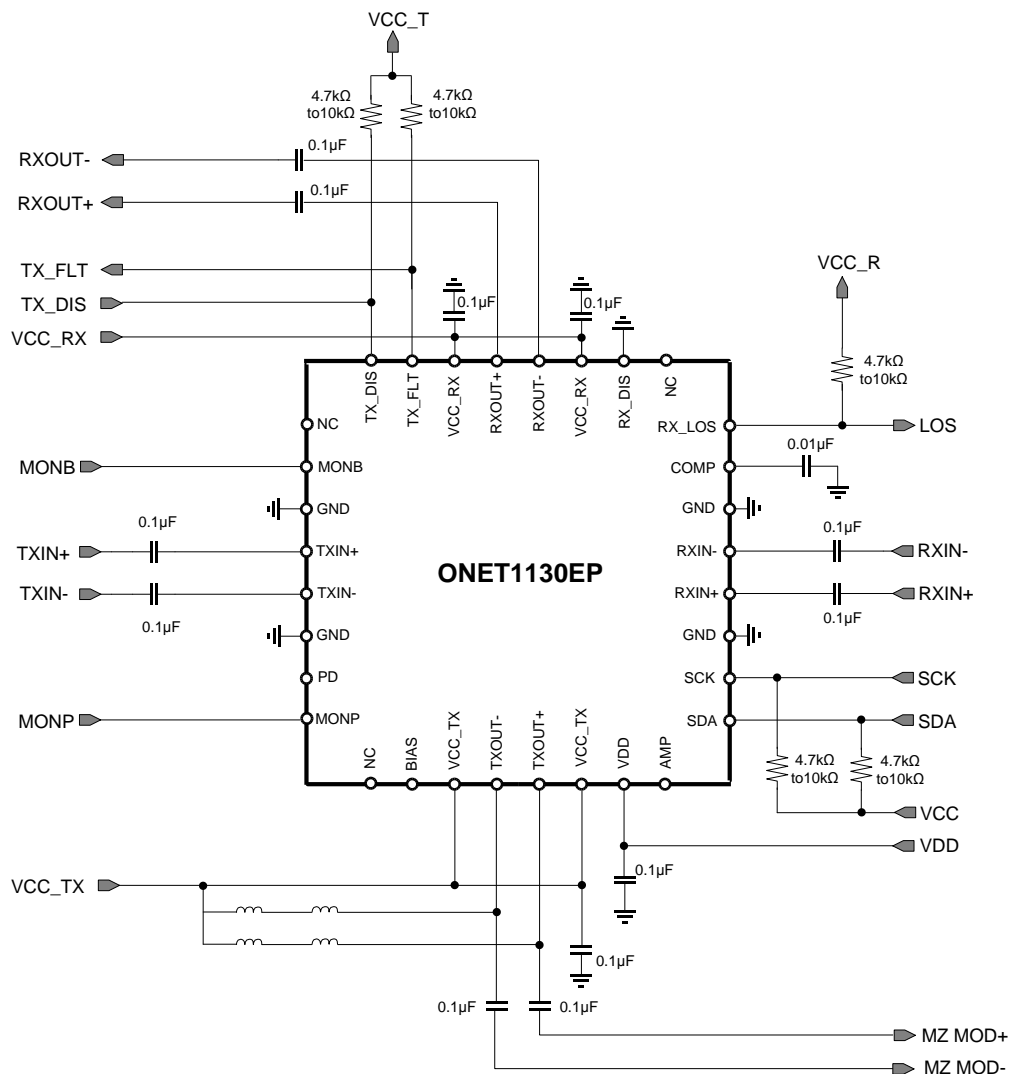
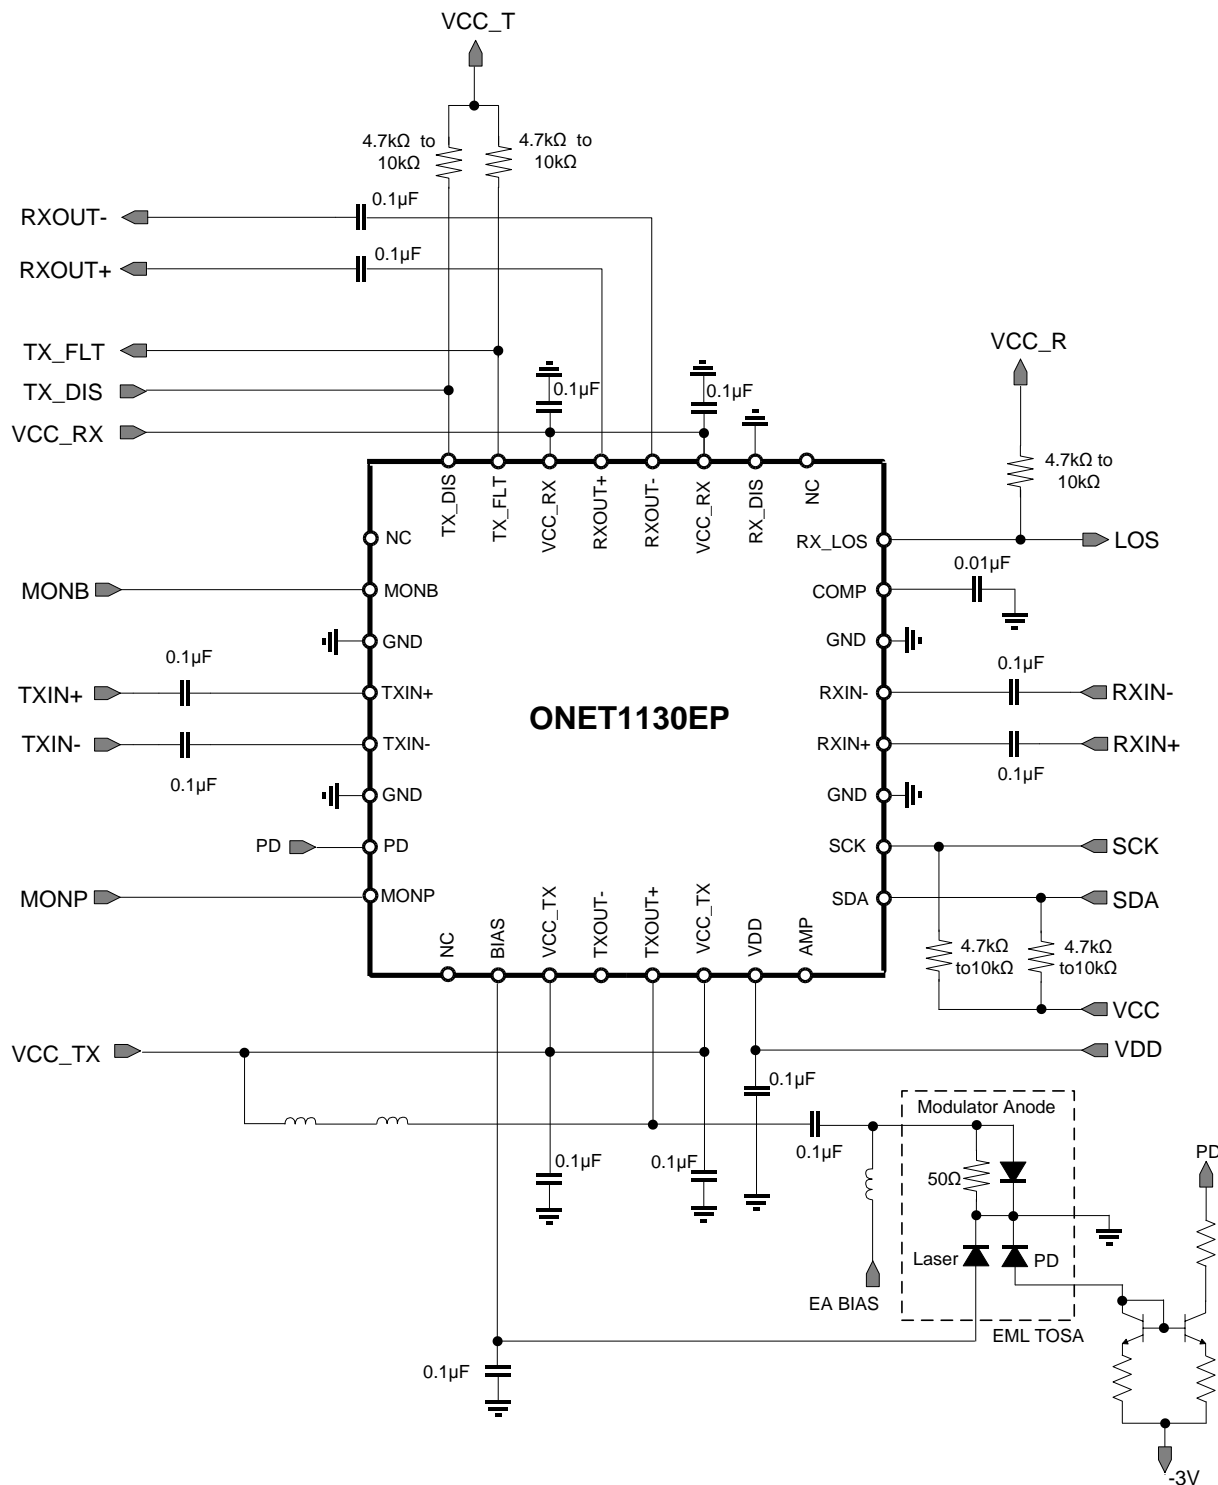

Figure 64. Typical Application Circuit in Differential Mode
Figure 67. Typical Application Circuit in Single-Ended Mode with an EML and the PD Monitor Anode Available
The ONET1130EP is designed to be used in conjunction with a Transmitter Optical Sub-Assembly (TOSA) and a Receiver Optical Sub-Assembly (ROSA). The ONET1130EP, TOSA, ROSA, microcontroller and power management circuitry will typically be used in an XFP or SFP+ 10 Gbps optical transceiver. Figure 64 shows the ONET1130EP in differential mode of operation modulating a differentially driven Mach Zehnder (MZ) modulator TOSA and Figure 66 and Figure 67 show the device in single-ended output mode with an Electroabsorptive Modulated Laser (EML) TOSA. Figure 66 has the photodiode cathode available and Figure 67 has the photodiode anode available.